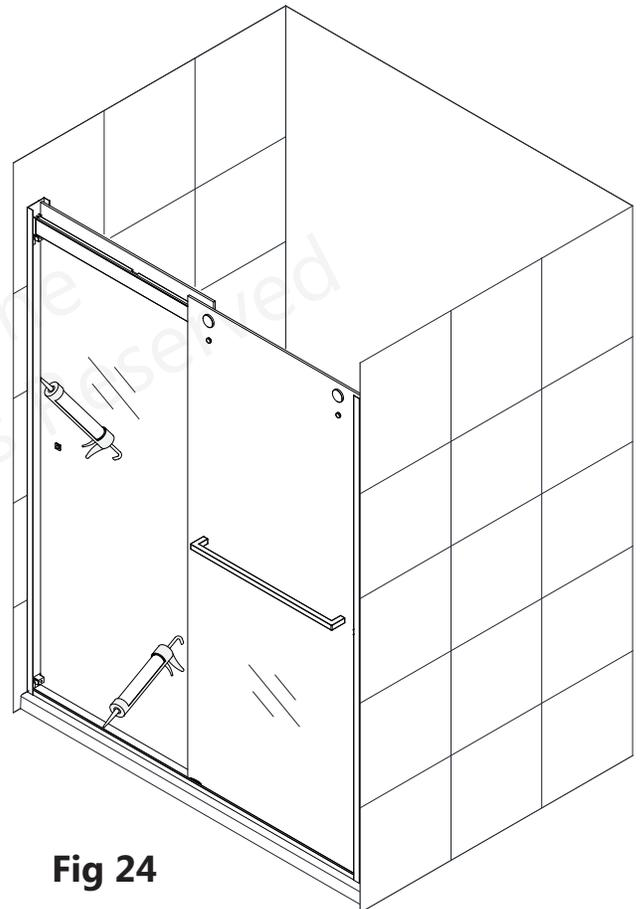

Fig 24
24. Apply a good quality mildew-resistant silicone along the bottom profile and wall profiles where they meet the walls and threshold. **(Fig 24)**